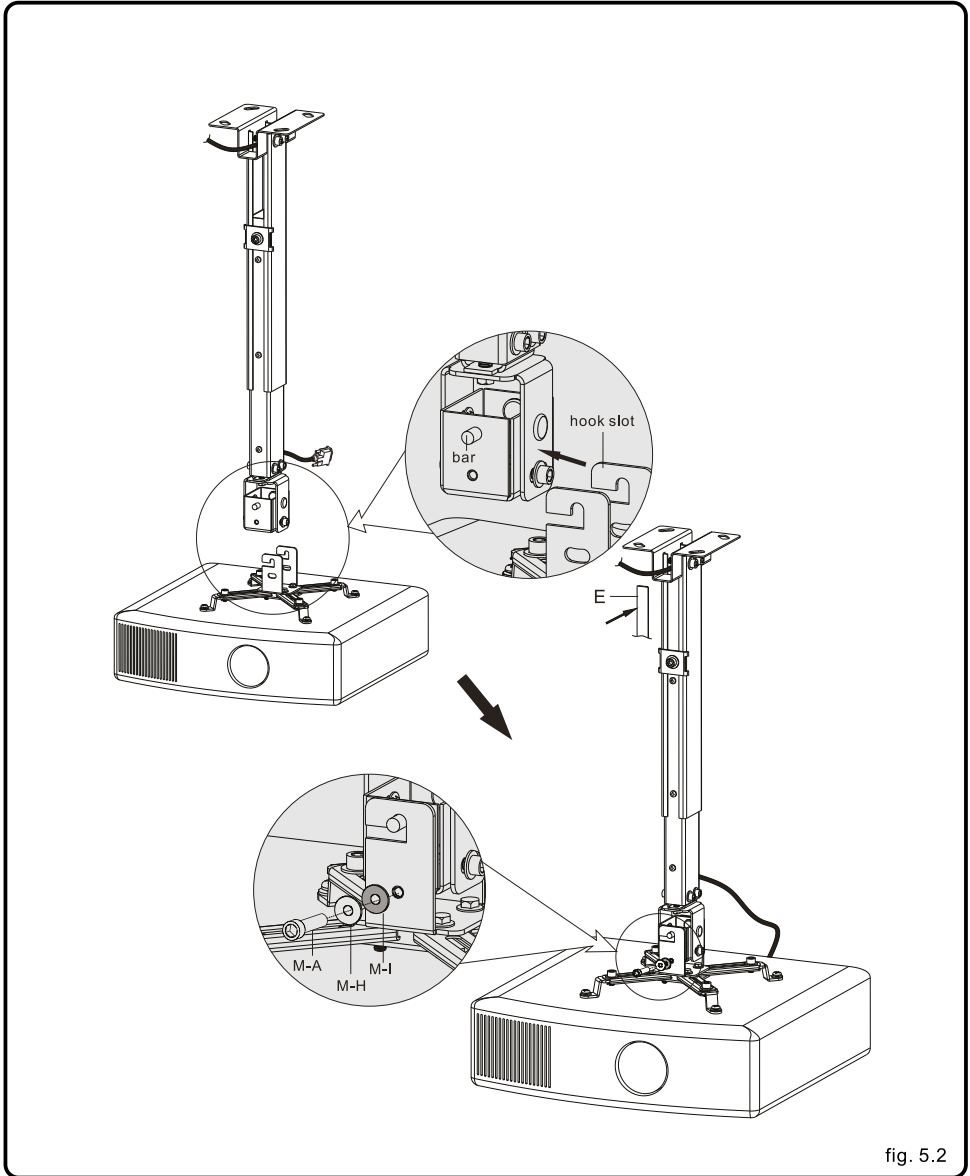

fig. 5.2
- Guide hook slots of adapter bracket onto bars in pivot bracket and secure with two screws (M-A) and two washers (M-H) as shown in fig.5.2.
- Cut cable cover to the length of outer rod opening. Snap cable cover into opening as shown in fig.5.2.